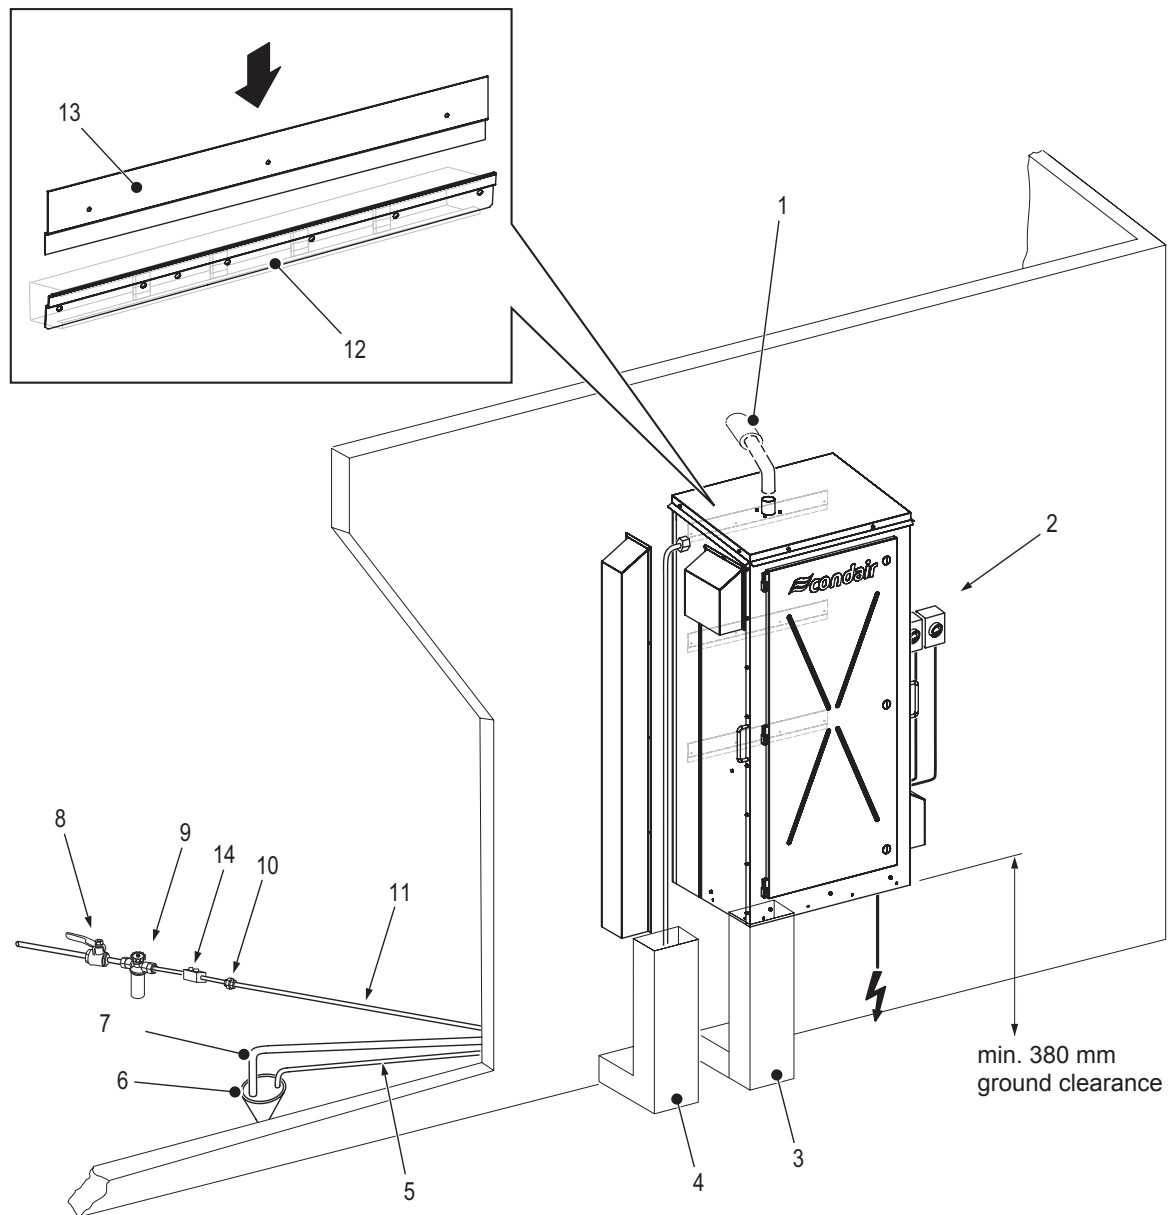

Fig. 7: Typical Installation on an Exterior Wall (medium size unit shown)
- mounted on a suitable vertical surface on an exterior wall, see Fig. 7 in chapter 5.2.3.